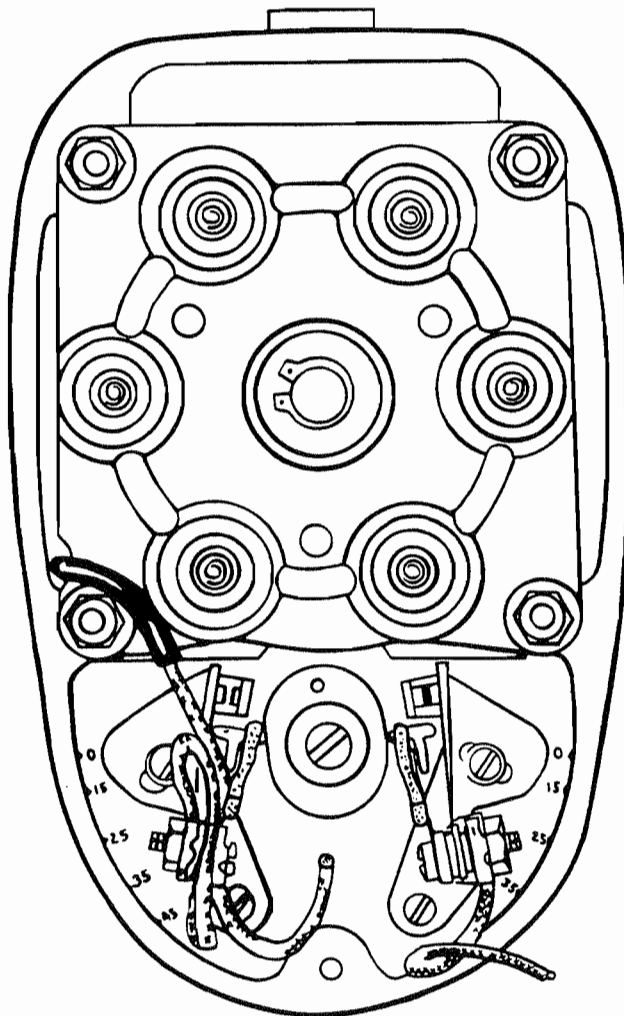

Figure 202. Cam End View of Dual Contact Assembly Magneto
- C. Some of the four and six cylinder magnetos incorporate impulse couplings. The purpose of the impulse coupling is to: (1) rotate the magnet between impulse trips faster than engine cranking speed, thus generating a better spark for starting the engine, (2) automatically retard the spark during engine cranking, and (3) act as a drive coupling for the magneto.
- D. The S-1200 Dual Contact Assembly Magnetos incorporate a retard contact assembly. (See Figure 202.) This contact assembly is actuated by the same cam as the main contact assembly. It is positioned so that its points open a predetermined number of degrees after the main contact points open. A battery-operated starting vibrator used with this magneto provides retarded ignition for starting, regardless of engine cranking speed. The retard ignition is in the form of a shower of sparks instead of a single spark, as obtained from an impulse coupling.